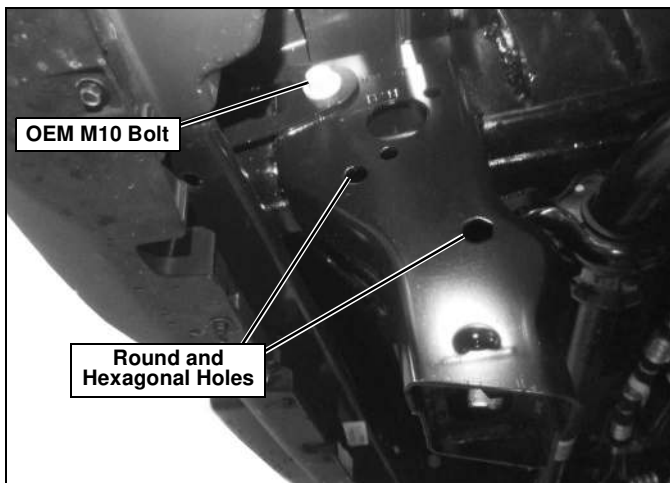
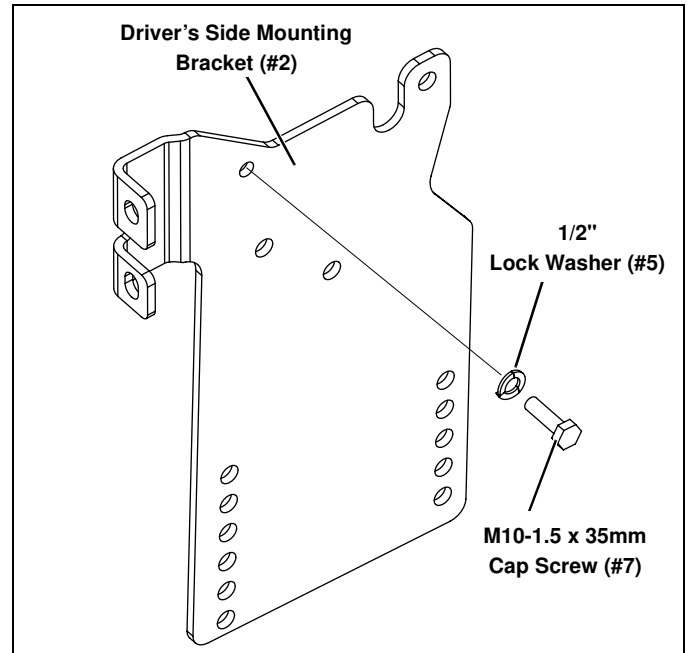
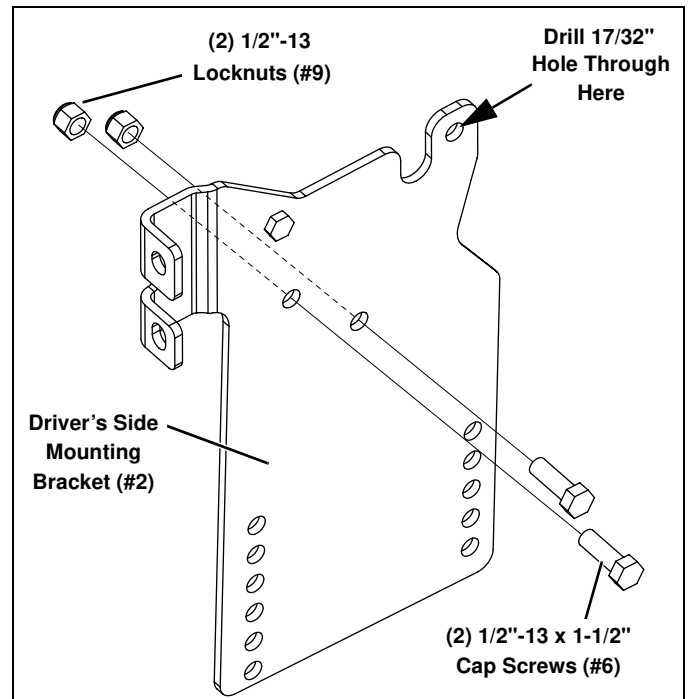

Figure 5
Figure 6
Figure 7
2. Mount the Driver's Side Mounting Bracket (#2) to the frame by aligning the holes and placing it in the same position that the driver side bumper bracket was removed. In the same location the OEM M10 bolt came from (See Figure 5), use a 1/2" Lock Washer (#5) and M10-1.5 x 35mm, Cap Screw (#7) to secure Driver's Side Mounting Bracket (#2) to the frame. (See Figure 6.)
3. Insert (2) 1/2"-13 x 1-1/2" Cap Screws (#6) through Driver's Side Mounting Bracket (#2) and into the round and hexagonal holes of the frame. Secure with (2) 1/2"-13 Locknuts (#9). (See Figure 5 and Figure 7.)
4. Clamp the Driver Side Mounting Bracket (#2) to the front and side of the frame rail. Use the upper rear hole as a template to center punch and drill a 17/32" hole in the side of the frame. (See Figure 7.)